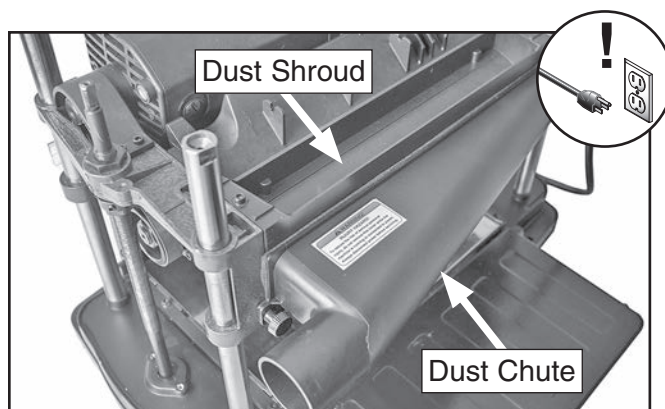

Figure 27. Components to be removed to access helical cutterhead.
2. Remove dust chute and dust shroud (see **Figure 27**).